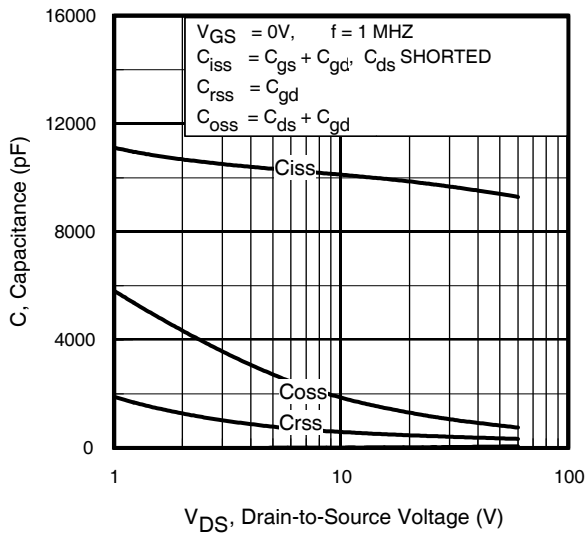

Fig 5. Typical Capacitance vs. Drain-to-Source Voltage
| C _{oss eff. (TR)} | Effective Output Capacitance (Time Related)⑥ | — | 1260 | — | | V _{GS} = 0V, V _{DS} = 0V to 60V ⑧, See Fig. 5 |